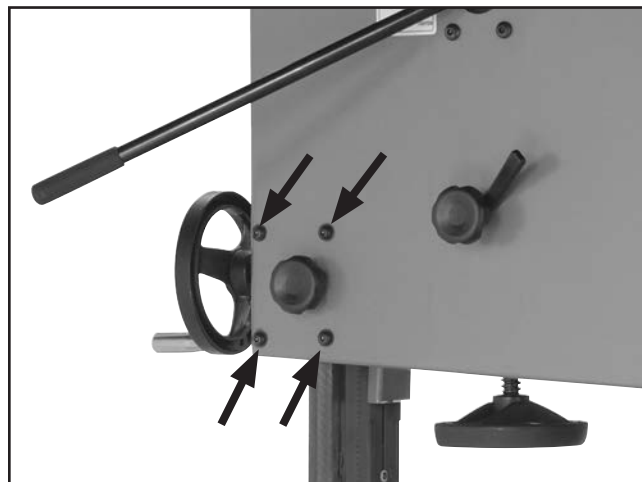
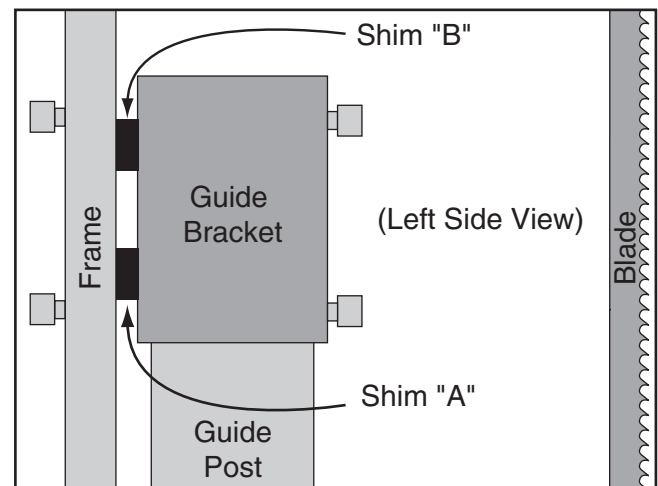

Figure 110. Guide post adjustment screws.
Figure 112. Location for placing shims.
4. Loosen each of the four screws shown in **Figure 110** ¼ turn.
6. Tighten the screws shown in **Figure 110**.
7. Loosen the four screws shown in **Figure 110** on the previous page enough to fit metal shims between the frame and the guide post bracket (see **Figure 112**).
8. Tighten the four screws shown in **Figure 110** on the previous page, then repeat **Steps 4–5**.